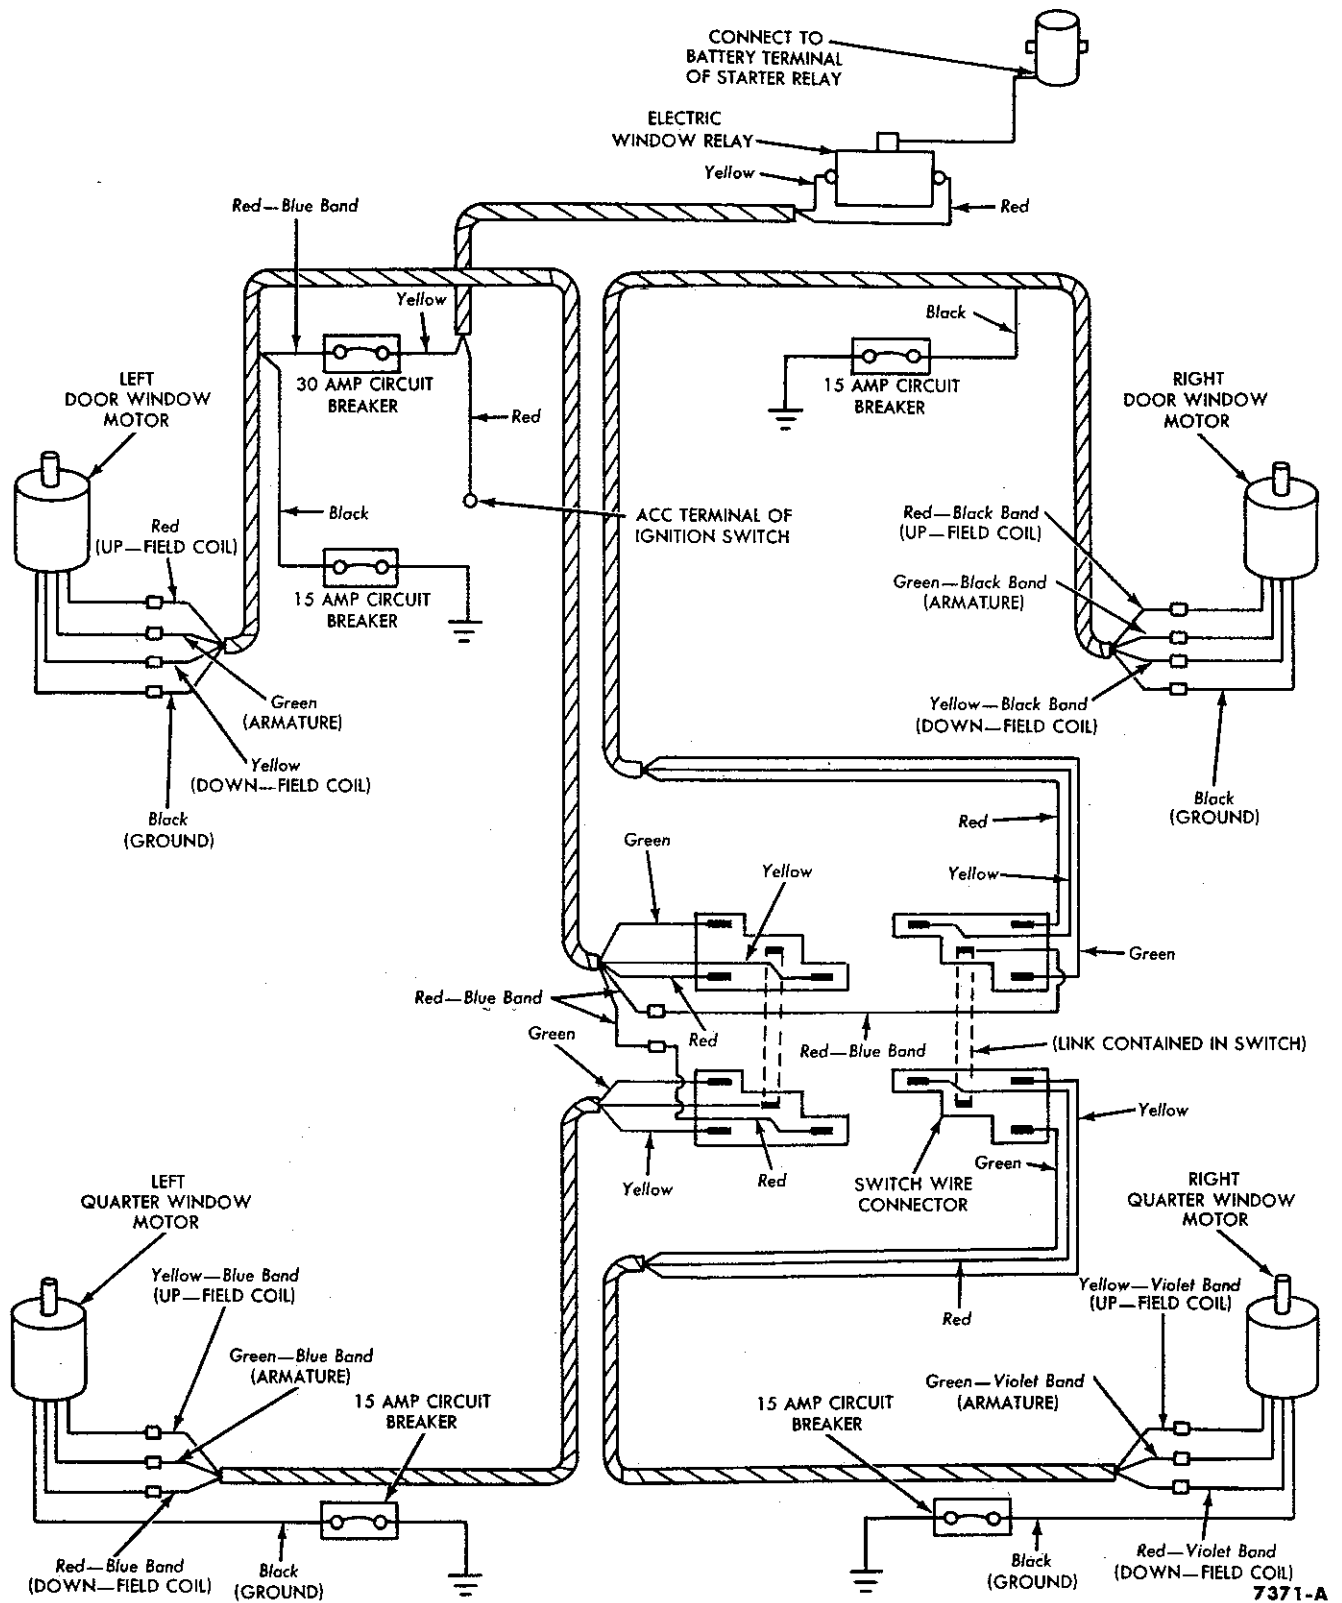

FIG. 10—Power Window Wiring System
Power to operate the windows is supplied from the battery terminal of the starter relay (Fig. 10). The lead wire from the starter relay goes to the window relay mounted on the engine side of the cowl panel. One lead from the window relay goes to a 30 ampere circuit breaker under the instrument panel mounted on the left air intake duct. The other lead from the window relay is connected to the accessory terminal of the ignition switch. When the ignition switch is turned on, current flows from the switch to the window relay causing its relay contacts to close, thus providing current through the 30 ampere circuit breaker to the window control switches.
5. At the window control switches, connect a voltmeter from one of the red-blue wires to ground (Fig. 10). If there is no voltage, repair or replace the red-blue wire from the 30 ampere circuit breaker.
When a window goes up when it should go down, the wires are crossed at the motor. Check the wires for proper installation (Fig. 10).